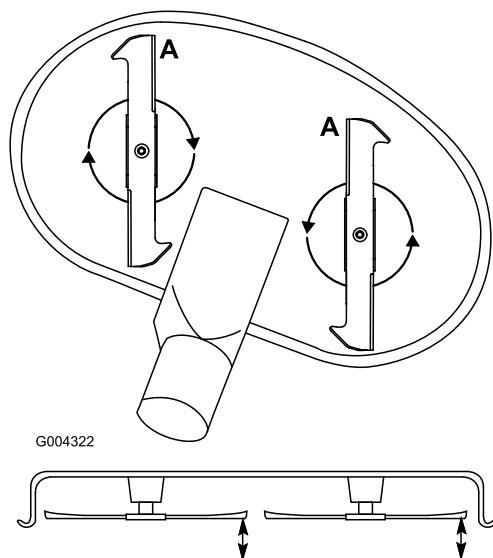

Figure 48
1. Rotate the blades until the ends face forward and backward (Figure 48). Measure from a level surface to the cutting edge, position A, of the blades (Figure 48). Note this dimension.